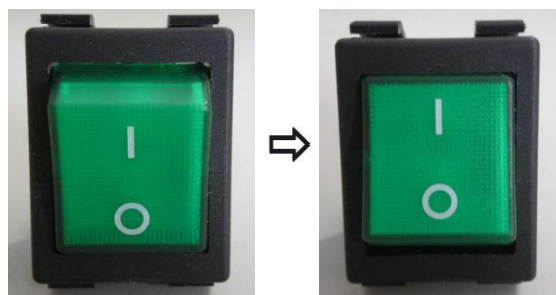

Fig. 8
- As Fig. 8 shows power switch, power off (left) and power on (right).